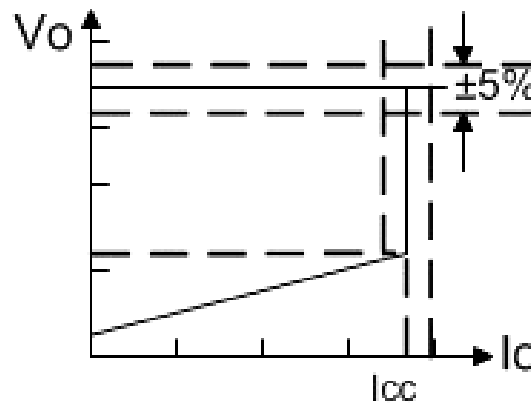

Fig.1 : Typical CC/CV curve
The ME8313 is a high performance offline PSR controller for low power AC/DC charger and adapter applications. ME8313 integrates a high voltage power MOSFET of 600V, 2A. It operates in primary-side sensing and regulation. Consequently, opto-coupler and ME431 could be eliminated. Proprietary Constant Voltage (CV) and Constant Current (CC) control is integrated as shown in the figure.1 below.
ME8313 is designed to produce good CC/CV control characteristic as shown in the Fig.1. In charger applications, a discharged battery charging starts in the CC portion of the curve until it is nearly full charged and smoothly switches to operate in CV portion of the curve. The CC portion provides output current limiting. In CV operation, the output voltage is regulated through the primary side control. In CC operation mode, ME8313 will regulate the output current constant regardless of the output voltage drop.